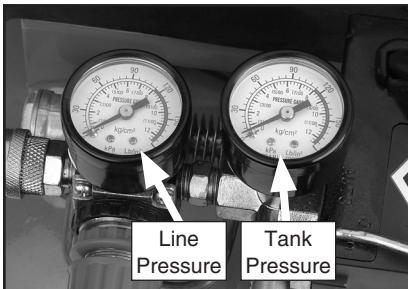

Figure 6. G0466 Pressure gauges.
7. Check the tank pressure gauge (Figures 6 and 7) to see that the tank pressure climbs to approximately 115-120 PSI (around 8 BAR) and turns **OFF**.